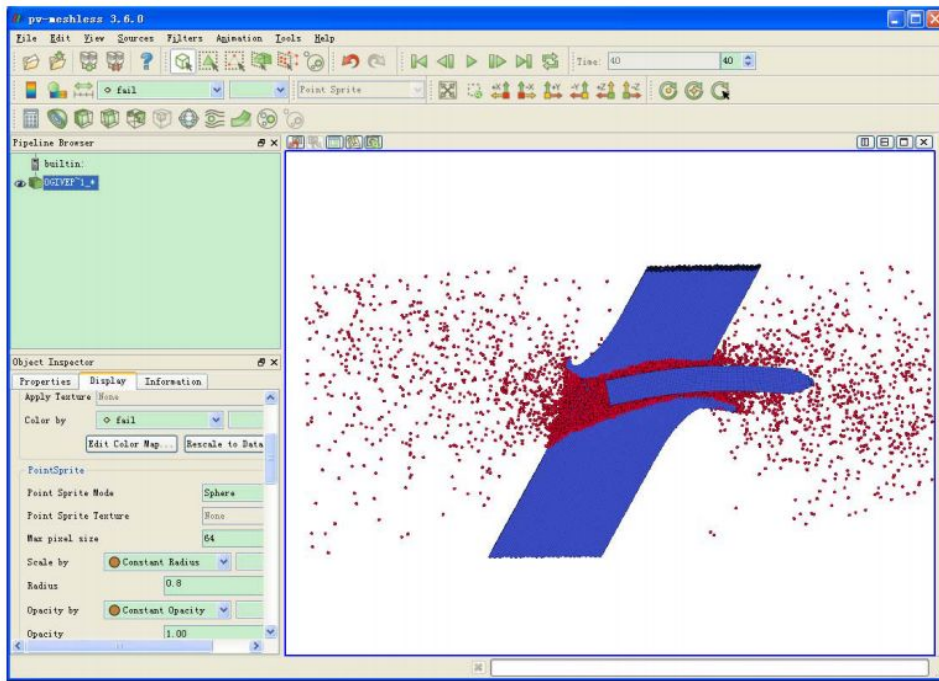

图 5.35: **Failure particle distribution**
2. In the Variable check box, select fail to check the URL failure status, as shown in Figure 5.35.